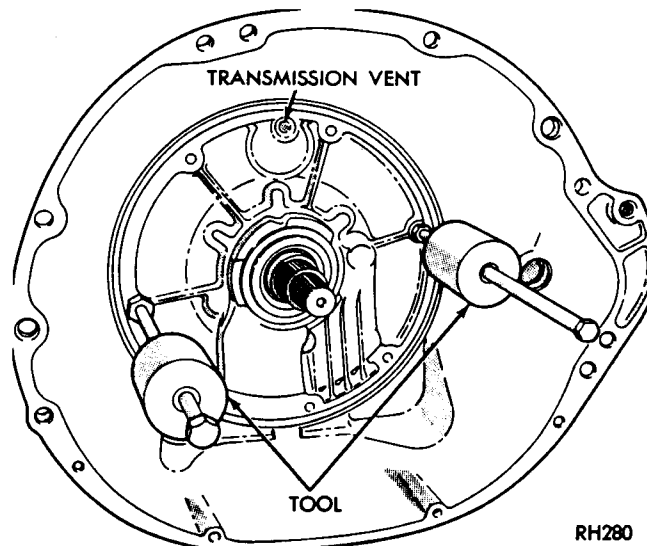

Fig. 7—Remove Oil Pump
- (1) Tighten front band adjusting screw until band is tight on front clutch retainer. This prevents clutch retainer from coming out with pump which might cause unnecessary damage to the clutches.
- (2) Remove oil pump housing retaining bolts.
- (3) Attach Tool C-3752 to pump housing flange, (Fig. 7), in threaded holes in the flange.
- (4) Bump outward evenly with the 2 "knocker weights" to withdraw pump and reaction shaft support.